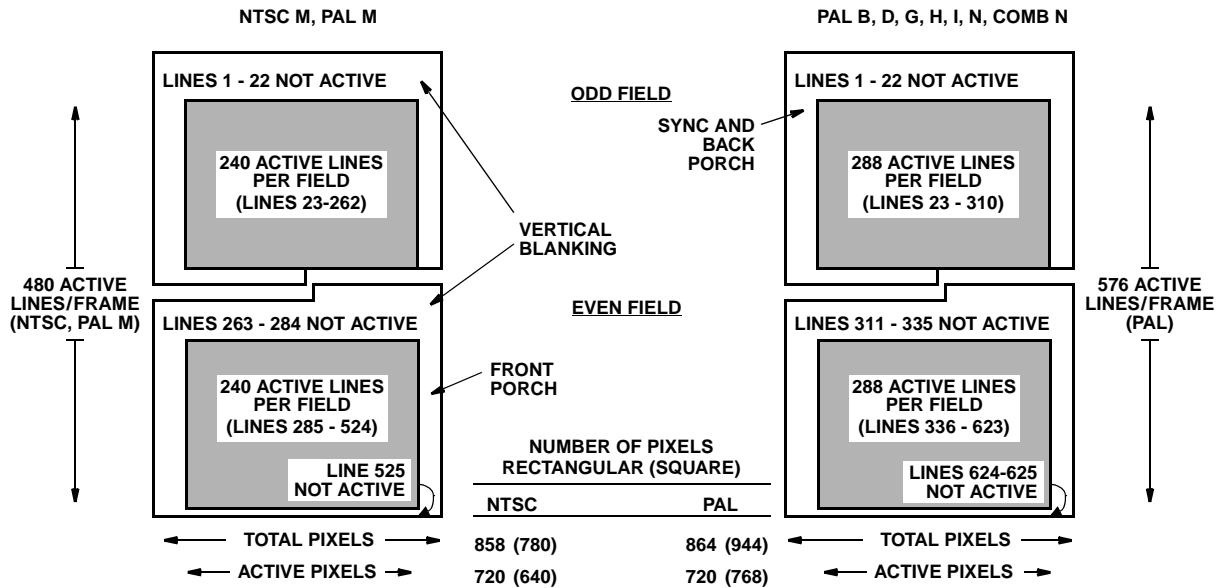

FIGURE 13. ACTIVE VIDEO REGIONS
In 16-bit Pixel Transfer Mode pixel data is output at the CLK frequency and Table 3 shows the number of data points per video line to expect for a given standard. Data is output as 4:2:2 subsampled data in a Y-Cb/Y-Cr 16-bit sequence. The Data Valid (DVLD) flag is asserted when video data is present on the 16-bit output port (Y[7:0], CbCr[7:0]). The luminance data is output on Y[7:0] bus. Chrominance data is sequenced on the CbCr[7:0] bus, starting with Cb and then Cr. Per Figure 13, the ACTIVE flag is asserted when the active video portion of the horizontal scan line is present on the data output port. See Figure 14 for 16-Bit Pixel Transfer Mode timing. DVLD is asserted every time the output sample rate converter has a valid output. When DVLD and ACTIVE are used together the visual portion of the image can be captured. When DVLD is used alone all valid data during the Horizontal, Vertical and Reference Burst Timing are available.
2. ACTIVE is asserted per Figure 13.
6. $\overline{\text{DVLD}}$ is asserted for every valid pixel during the active region only per Figure 13. $\overline{\text{DVLD}}$ may deassert briefly during the active video region as the Output Sample Rate converter adjusts the output timing for various data rates and clock frequency inputs.